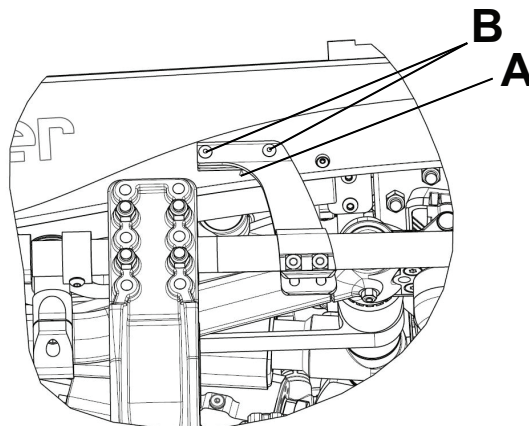

Figure 6 – Adjust the shut-off bracket
4. Adjust the shut-off bracket along the rail clamp until the diamond (A) on the outer rail label is centered between the pop rivet heads (B) on the in-ambulance shut-off (Figure 6).